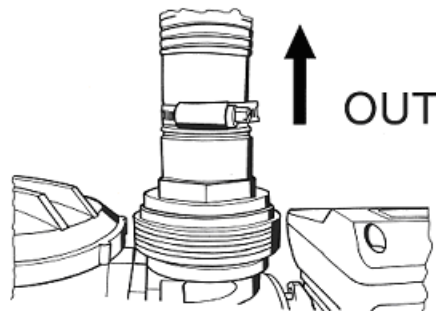
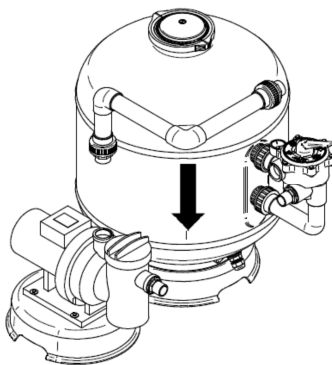
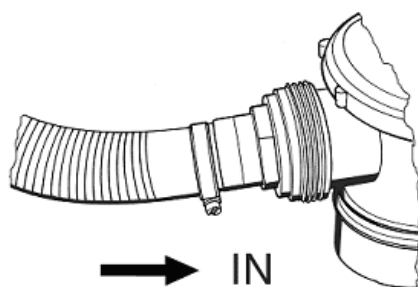
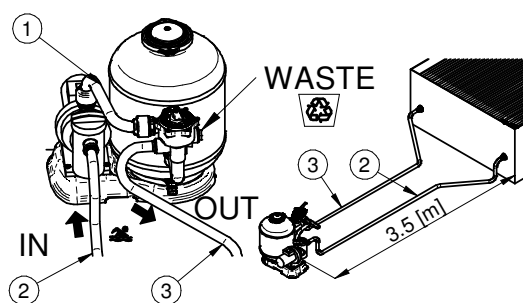

Fig. 27
Fig. 28
Fig. 29
Fig. 30
1. **Pressure connection** (Fig. 30, # 1): join the *filter pump* (outlet Fig. 27, OUT) to the *multifunction valve* (**PUMP**), using the corrugated pipes or the rigid connection (Fig. 28).
2. **Skimmer tube** (Fig. 30, # 2): join the *skimmer* connection to the frontal connection of the *filter pump* (inlet Fig. 29, IN).
3. **Return-tube** (Fig. 30, # 3): join the connection on the *multifunctional valve* marked with **RETURN/POOL** to the entrance mouth connection of the swimming pool. Tight with special hose clamps the tubes on the connections (*hydraulic parts*).
4. **Backwash-tube** (Fig. 30, # 4): to be used when we apply the **BACKWASH** function to drain the dirty water in a discharge area. For the connection use proper rubber tubes and proper hose clamps (*hydraulic parts*).